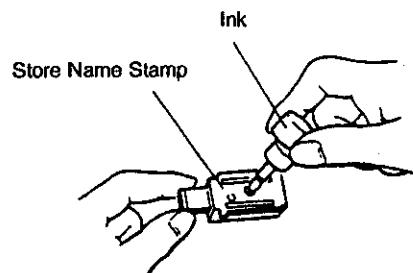

Fig. 5
3. Apply ink to the pad on the rear side of the Store Name Stamp. The amount applied should be adjusted according to the desired darkness of the printed message, but the limit of 2 cc should not be exceeded. (The ink bottle supplied contains 5 cc of ink.) (Fig. 5)